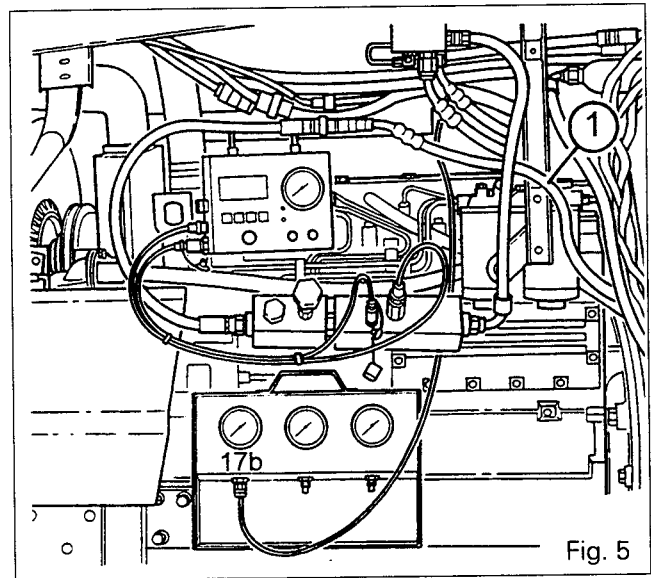

Fig. 5
Connect the flowmeter between the distribution valve the hose (1) of the 1.5 bar valve, as shown in Fig. 5.